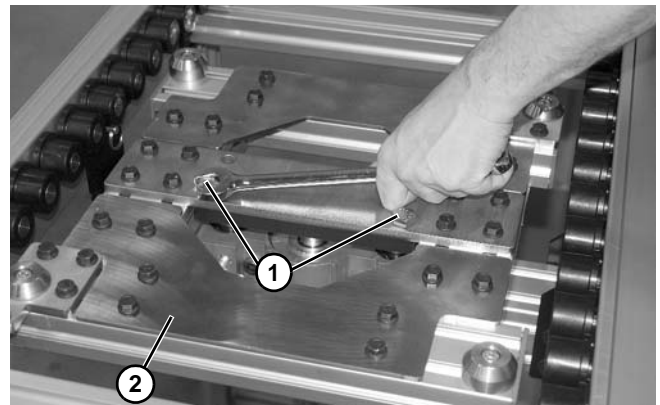

Figure 82
3. Remove two screws (**Figure 82, item 1**) holding lift station platform (**Figure 82, item 2**) onto lift cylinder assembly.